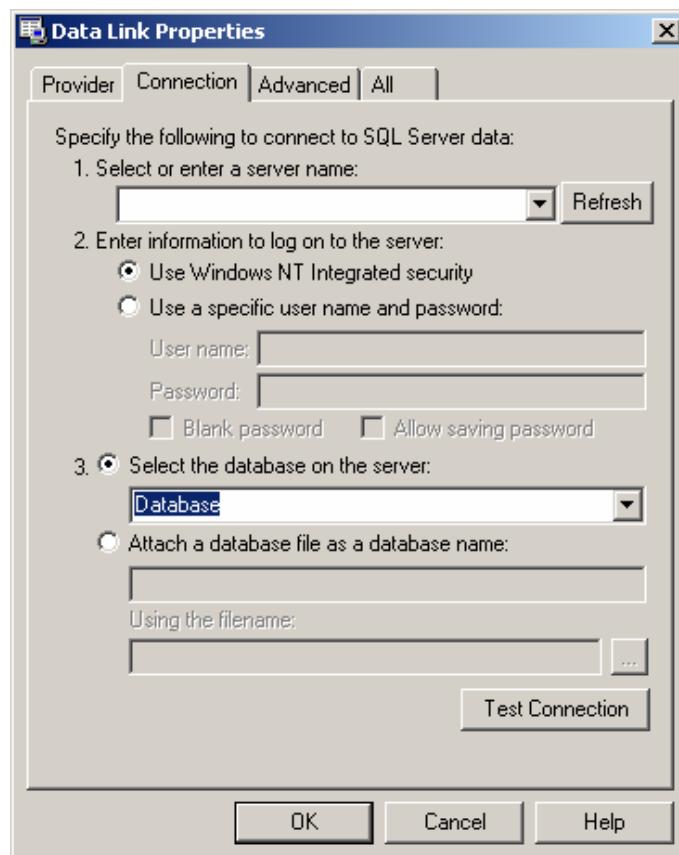

Figure 1.22. Logging on to the SQL Server Database from the Data Link Properties
3. You are now prompted to connect to the existing SQL Server database. Click the **Log On SQL Server** button, as shown in Figure 1.22.